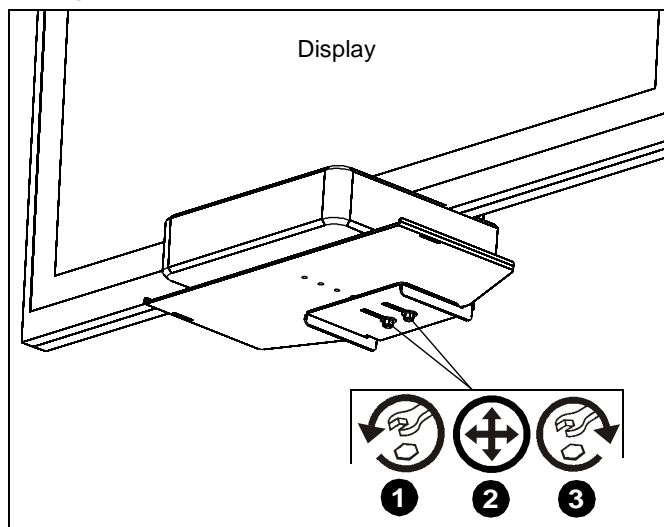

Figure 8
1. Loosen two round head carriage bolts securing shelf. (See Figure 8)
2. Reposition shelf in or out to desired position. (See Figure 8)
3. Tighten two round head carriage bolts securing shelf. (See Figure 8)